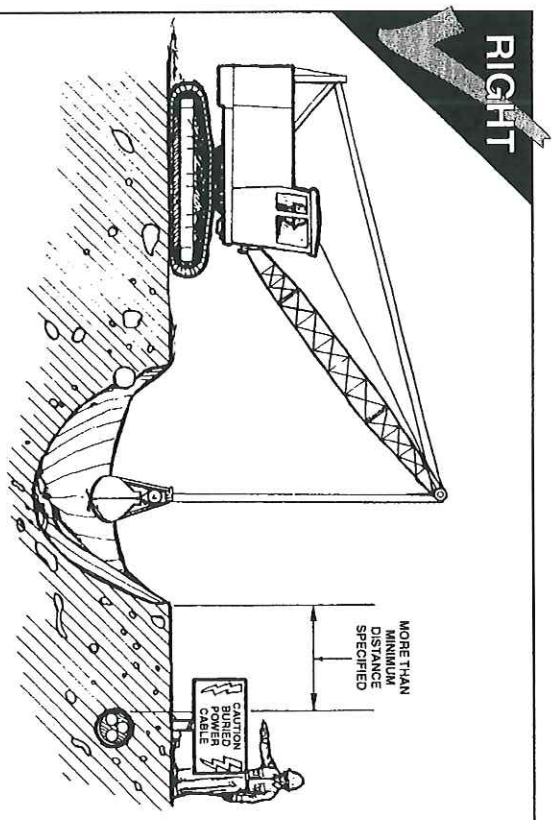

FIG. 38
- **Safe operating practices** require that you maintain the maximum possible distance from the lines and never violate the minimum clearance. (FIG. 38)